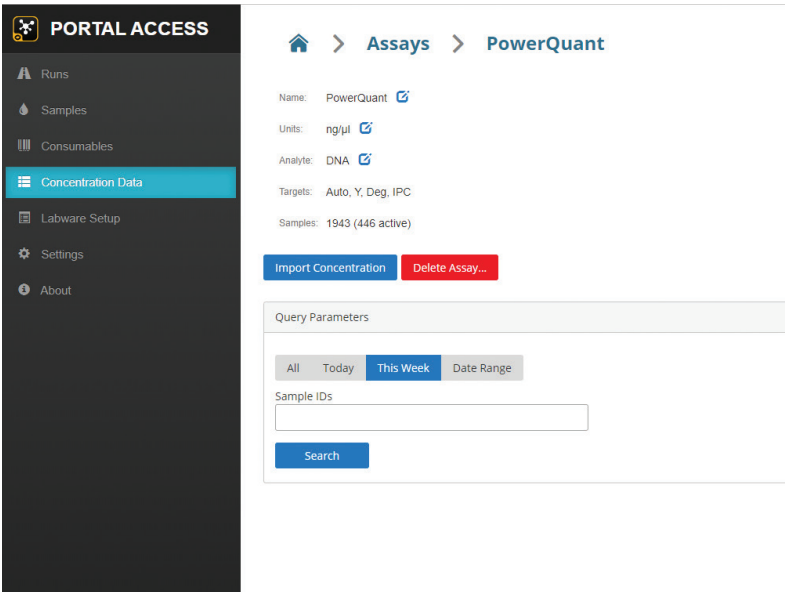

Figure 27. Assay specific information. Search for existing samples with concentration entries from the assay specific screen.
2. Specify search parameters on the assay specific screen to view samples with concentration data sets (Figure 27).